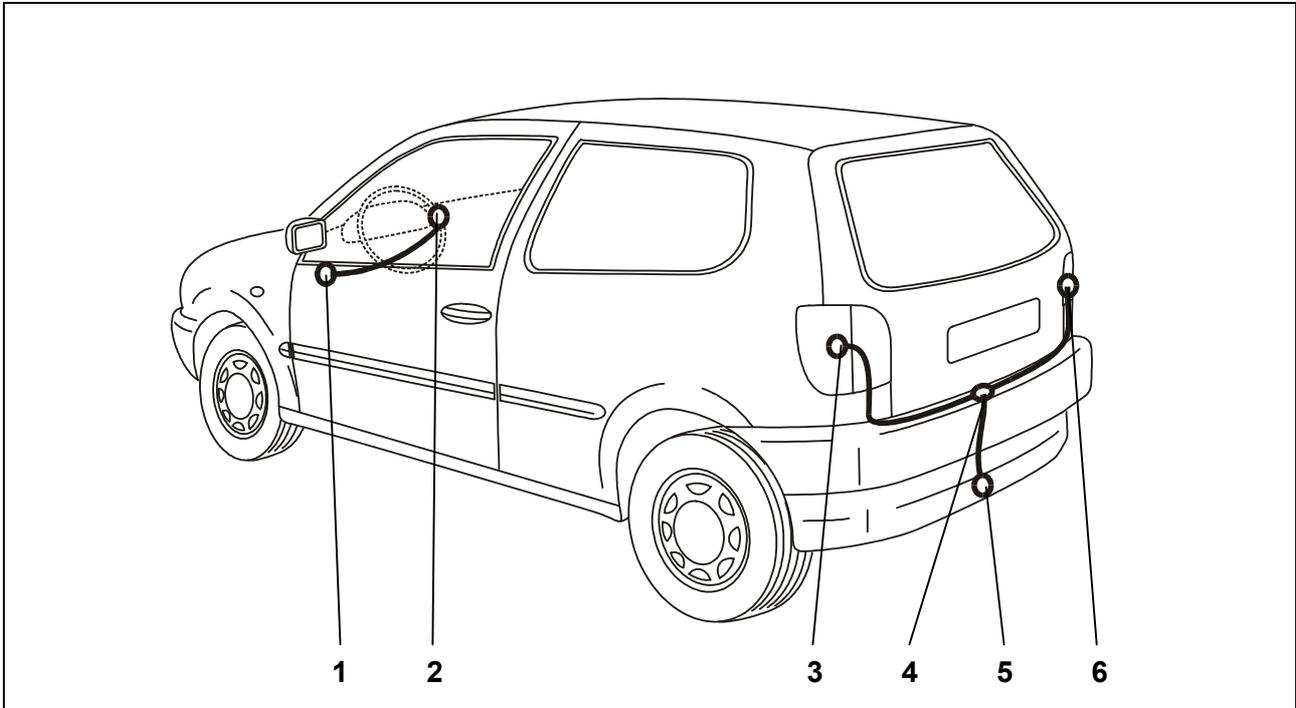

Fig. 1: Installation Overview
4. Bore a 32 mm hole for the cable leadthrough at a suitable point in the spare wheel well (Fig. 1/4).
5. Starting in the luggage trunk, lead the cable end of the cable harness through the cable leadthrough to the outside up to the socket holder plate (Fig. 1/5).
6. Insert the rubber grommet into the cable leadthrough (Fig. 1/4).
7. Fit the socket gasket and connect the cable harness to the socket housing in accordance with the *pin assignment plan* (Fig. 1/5) and push the rubber grommet against the socket.
8. Screw the socket onto the holder plate (Fig. 1/5) using the supplied screws and nuts.